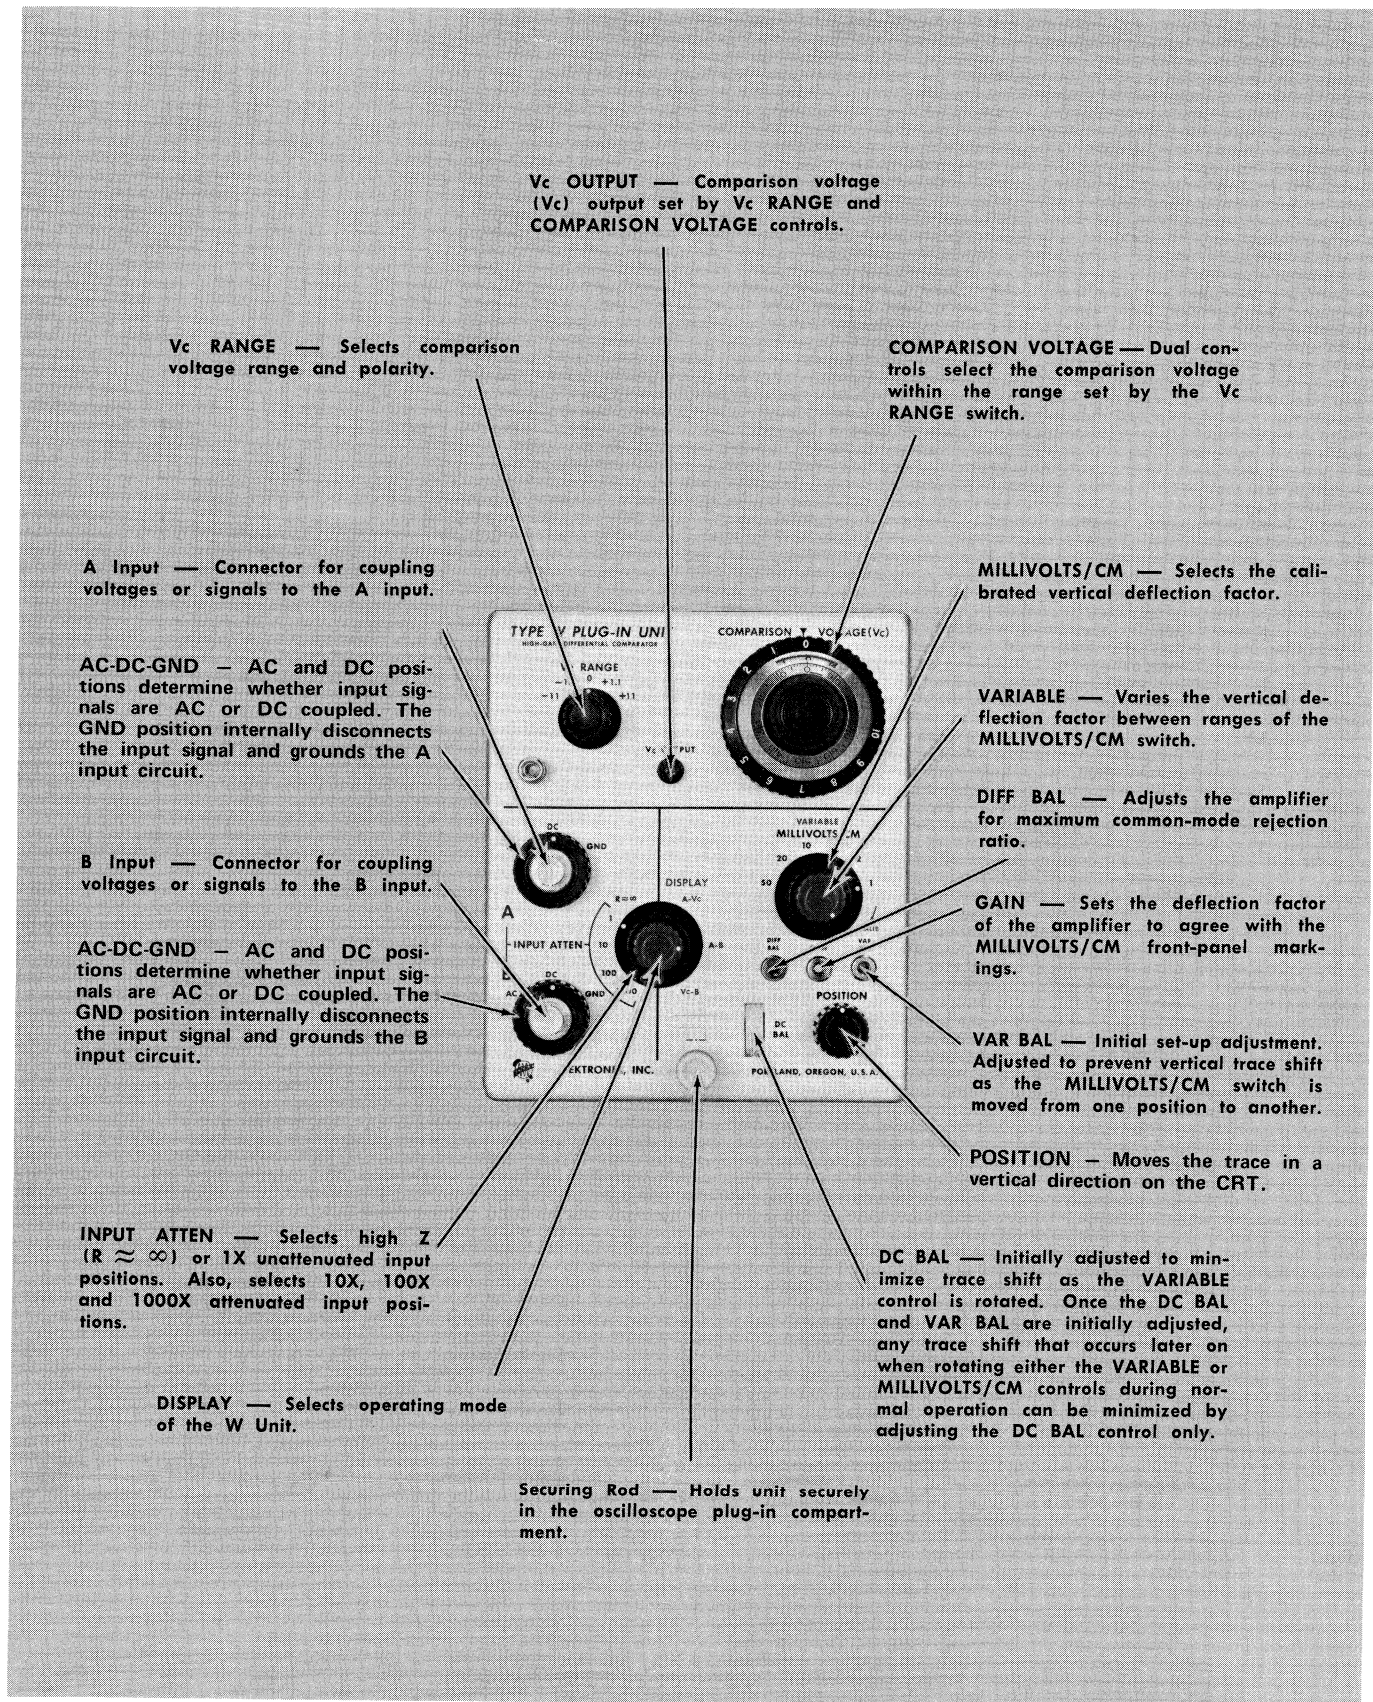

Fig. 2-1. Functions of front-panel controls, input connectors, and Securing Rod.
A front-panel view of the Type W Unit is shown in Fig. 2-1. In addition, a brief functional description is given of the front-panel controls, input connectors, and securing rod.
Any vertical shift of the trace when the VARIABLE control is rotated with the AC-DC-GND switches set to GND, indicates need for adjusting the DC BAL control (see Fig. 2-1). To make this adjustment, proceed as follows:
c. Set the MILLIVOLTS/CM switch to 5. If the trace is off the CRT, adjust the VAR BAL control (see Fig. 2-1) to position the trace near the center of the CRT.
The GAIN adjustment (see Fig. 2-1) should be checked periodically to assure correct vertical deflection factors. The adjustment can be made using the oscilloscope calibrator as the signal source. If greater accuracy is needed, a signal source with more precise amplitude accuracy can be used.
c. Ignoring the positive and negative spikes, adjust the DIFF BAL control (see Fig. 2-1) to eliminate any square-wave response; that is, to obtain a straight-line appearance of the trace.